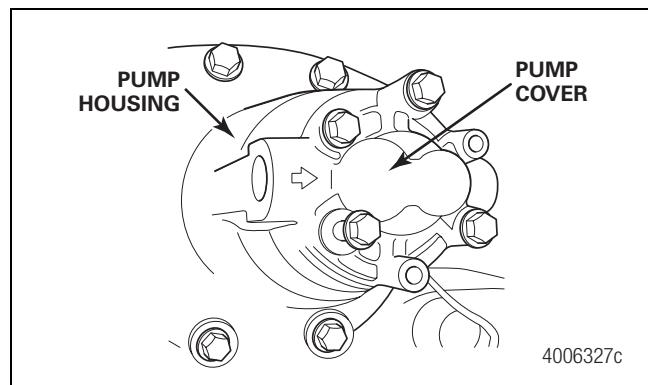

Figure 2
7. Remove the pump housing washers and bolts. Remove the pump housing and cover. Figure 2.